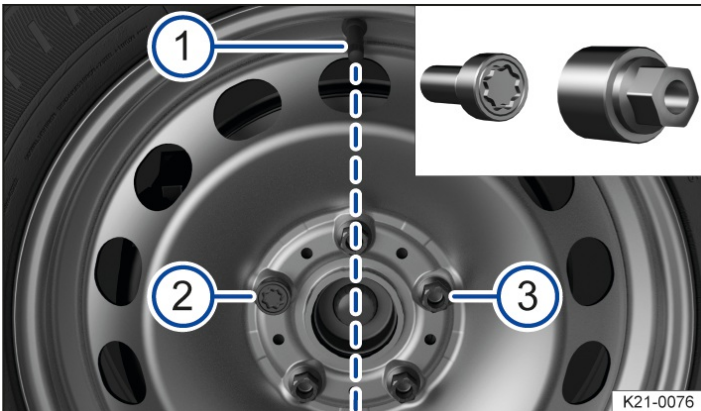

Fig. 2 Changing a wheel: tyre valve ① and locations of the anti-theft wheel bolt ② or ③.
On wheels with a wheel cover, the anti-theft wheel bolt must be screwed in at position → *Fig. 2* ② or ③ according to the